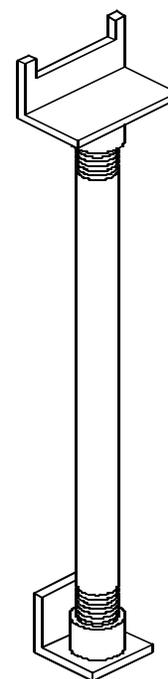

Figure 73
- Position the 38.1 cm (15 in.) support brace (P/N P/N 3-0063-171-01-6) between the top chamber actuator bracket and the 7 mm. step of the front tunnel extrusion. Refer to Figure 73. The actuator bracket is attached to the hood and is at the uppermost portion of the actuator.